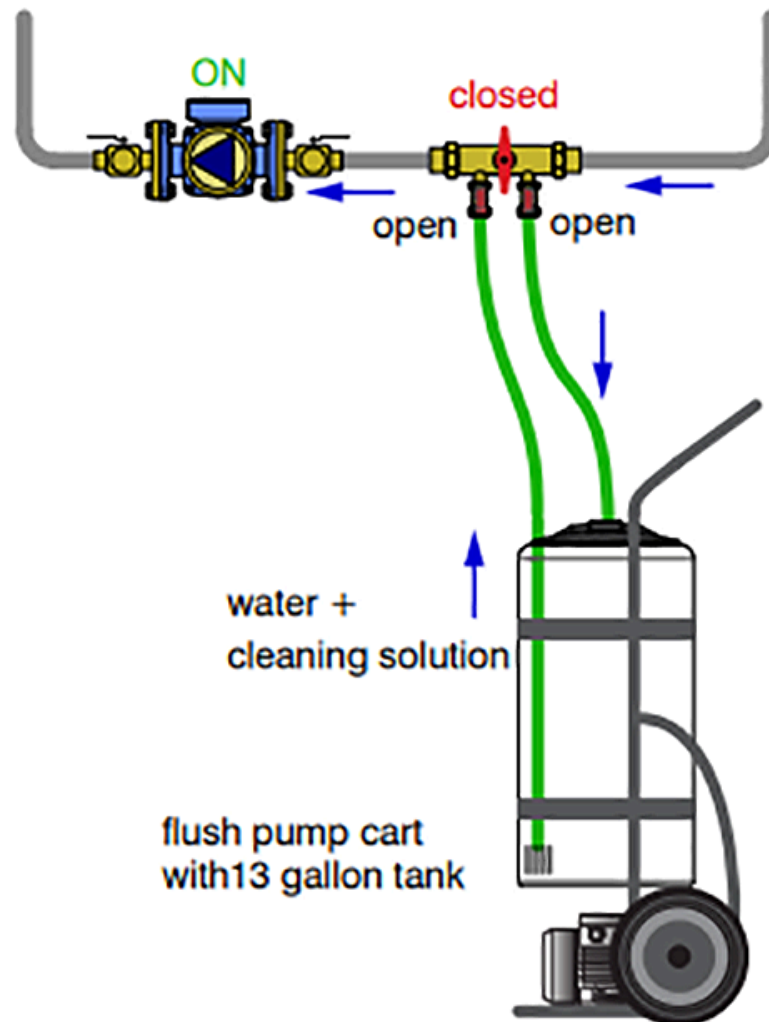

Figure 31 Flush pump cart. (Caleffi, idronicsTM, 2016). Caleffi S.p.A. All rights reserved. Used with permission.
To perform either initial flushing or chemical cleaning procedures, the system must be equipped with the appropriate valves (Figure 31) to add fluid and remove both air and dirty fluid.
- **Figure 31** Flush pump cart [Figure 4-9] is by Caleffi Hydronic Solutions (2016, p. 22) in idronics™ and is used with permission.